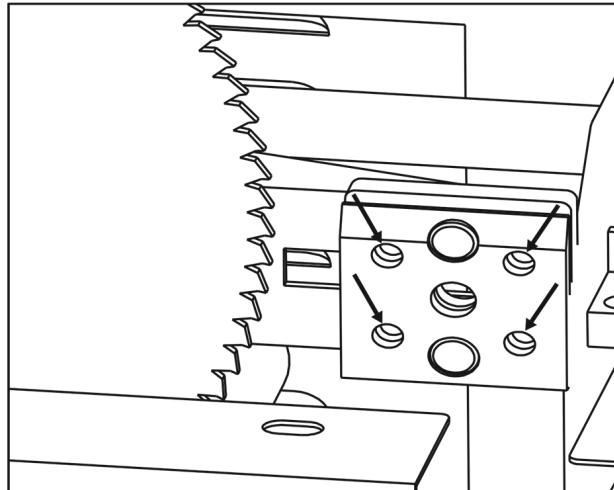

Fig. 17 (set screw for adjusting riving knife)
- 6. Use the set screws shown in Figure 17 to adjust the riving knife bracket and re-install the riving knife.